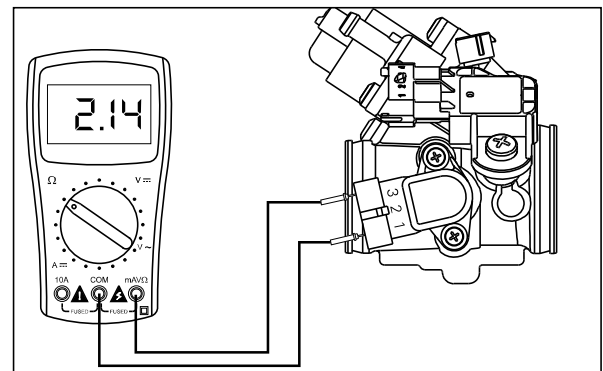

Fig. 5.48
- Disconnect the TPS coupler of main wiring harness. Connect the pocket tester's '+ve' lead to the pin no. 3 and '-ve' lead to the pin no. 1 of the throttle position sensor and measure the resistance when engine is in cold condition. (Fig. 5.48)